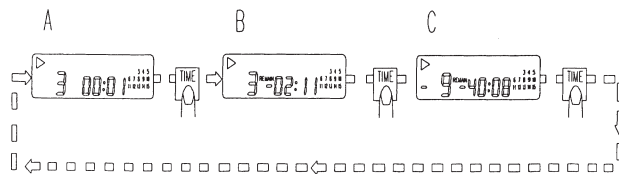

Fig. 14
- This feature allows you to scroll through a track to set a starting cue, sample, or loop point. To use the scroll function you must first be in Pause Mode. While in Pause Mode use the **INNER JOG WHEEL (FIG. 12)** to find your desired starting point by turning the wheel in either a clockwise or counter-clockwise direction. While using the jog wheel the monitor function allows you to hear what you are scanning through. Once you have found your desired starting point, pressing the **PLAY BUTTON (FIG. 13)** locks your cue point into memory. Pressing the **CUE BUTTON (FIGURE 14)** will return you to your set cue point until the disk is removed or a new cue point is set.
- (4) Press the **PLAY BUTTON** to begin playing programmed tracks.
- (5) To cancel the program press and hold down the **PROG. BUTTON** for more than two (2) seconds.
17. Time Display (see figure 14)